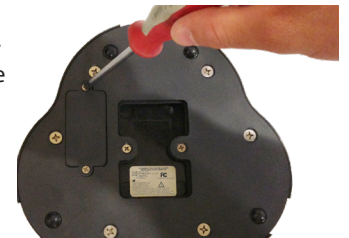

Figure 6
9. Replace the screws. Turn the screwdriver clockwise to tighten the screws. The screws are sufficiently secure once they no longer turn with gentle finger-applied force. Do not over-tighten. (Figure 6)